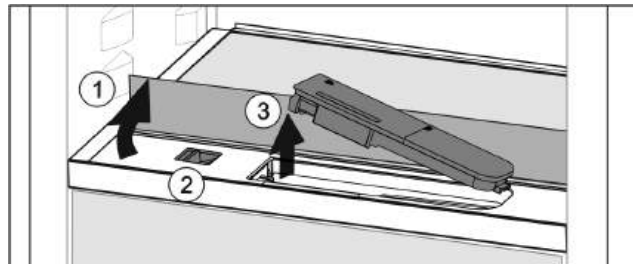

Fig. 109
- Lift the glass panel and fold towards the rear until it clicks into place Fig. 109 (1).
- Slide the slider Fig. 109 (2) to the left.
- Remove the water tank Fig. 109 (3).